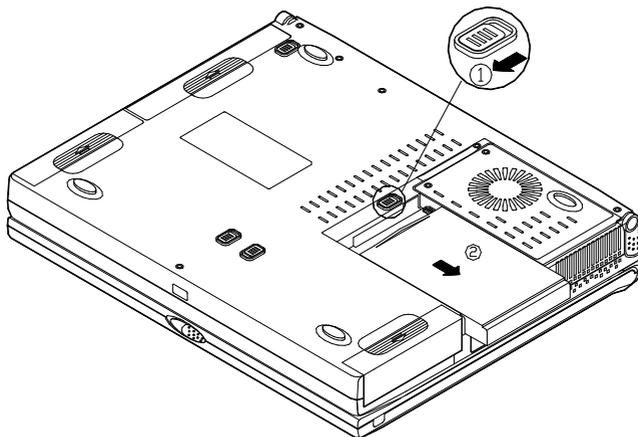

Figure 2-10
3. Locate the Hard Disk drive latch (Figure 2-10).